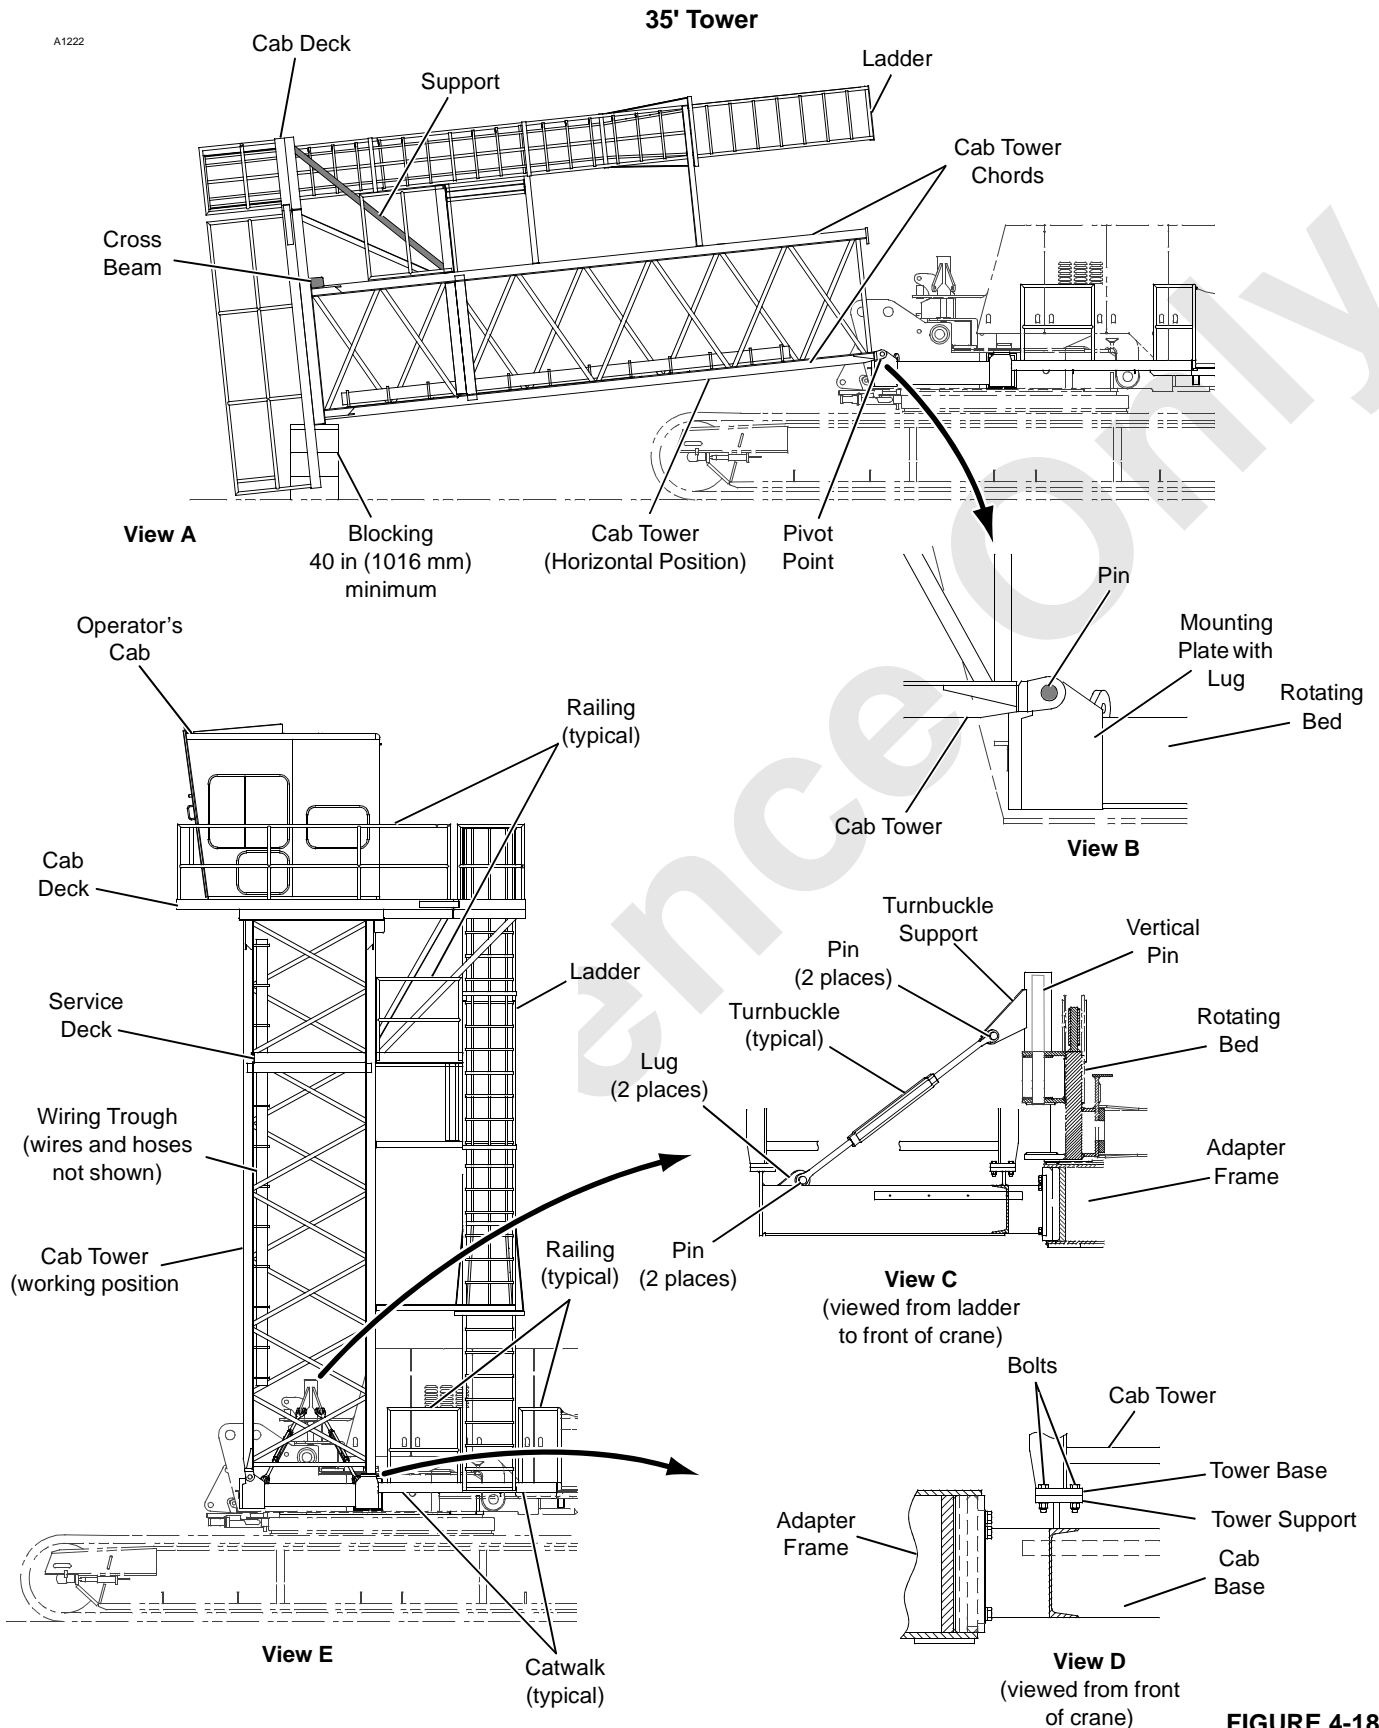

FIGURE 4-18
See Figure 4-18 for the following procedure.
- Install catwalks and railings as shown in Figure 4-18:
5. Using slings and shackles attached to cross beam (Figure 4-18, View A), support tower in working position. **Do not lift tower.**
6. Remove tower turnbuckles (Figure 4-18, View C):
7. Remove bolts holding tower to mounting plate (Figure 4-18, View D).
8. Slowly lower tower from working position to horizontal position, allowing it to pivot forward on pins. Allow cab deck to rest on ground or blocking (Figure 4-18, View A).
11. Remove pins from tower base (Figure 4-18, View B).